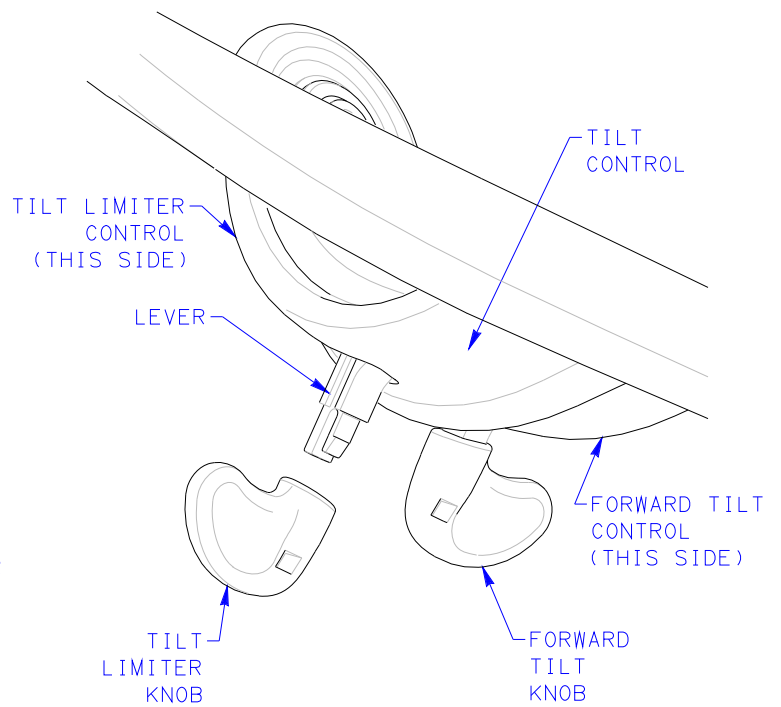

FIGURE 6
13. PUSH APPROPRIATE REPLACEMENT CONTROL KNOB(S) ONTO APPROPRIATE LEVER(S) OF TILT CONTROL UNTIL A "CLICK" IS HEARD, INDICATING THE KNOB HAS LOCKED IN PLACE. SEE FIGURE 6.